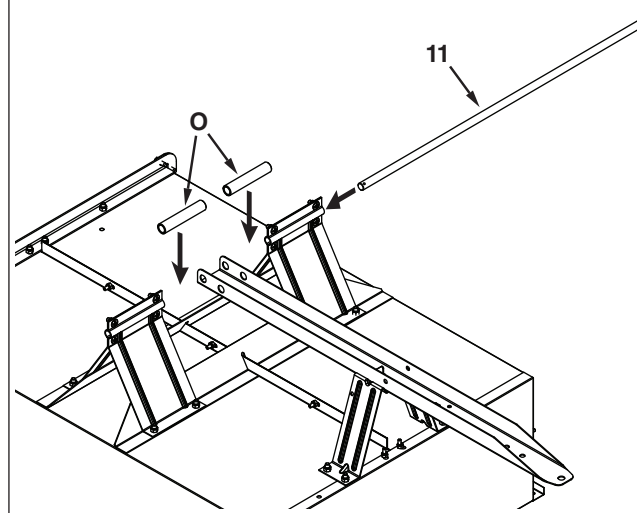

Figure 16
**STEP 16 (SEE FIGURE 16):** Install the axle (11) through the wheel support, a spacer (O), the draw bar tongue (14), a spacer (O), and the wheel support as shown in figure 16.